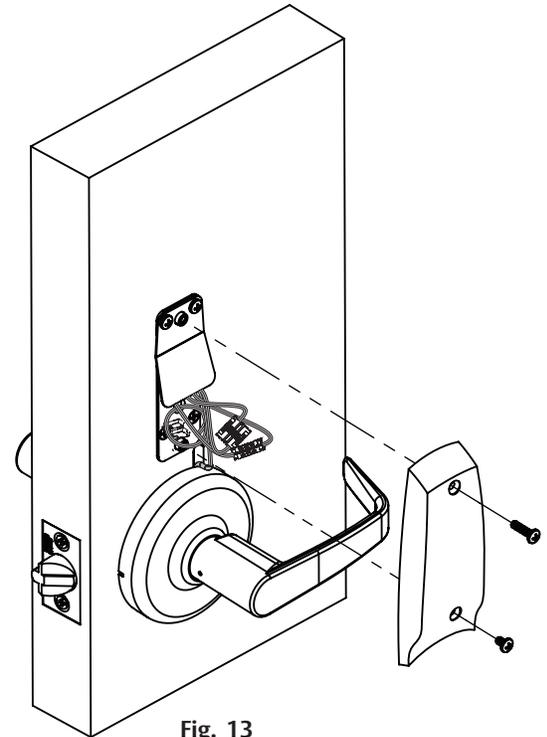

Fig. 13
- a. Tighten the inside escutcheon securely to the mounting plate with the Phillips flat head machine screws provided (Fig. 13).